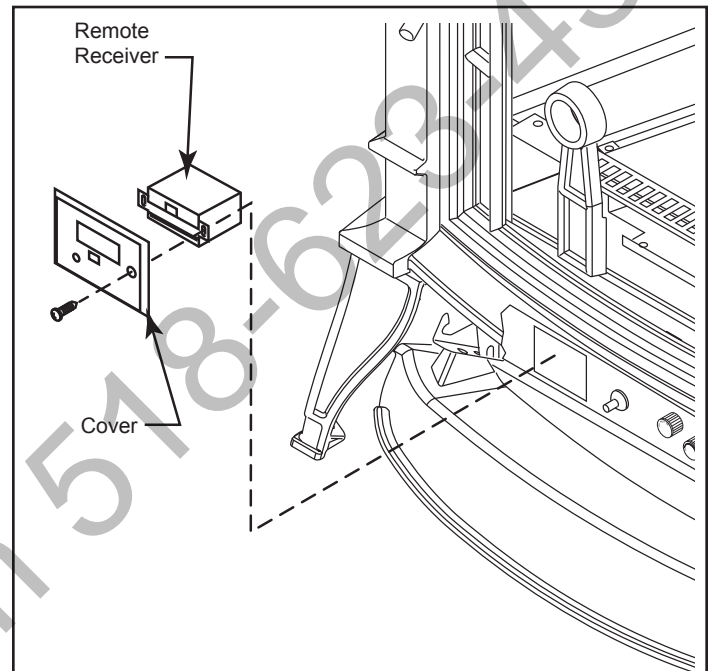

Figure 11 - Install Remote Receiver
1. Remove cover on control panel to show opening for remote receiver. Figure 11
3. Place remote receiver in the opening of control panel. Use two screws provided to attach remote receiver to the control panel. Figure 11